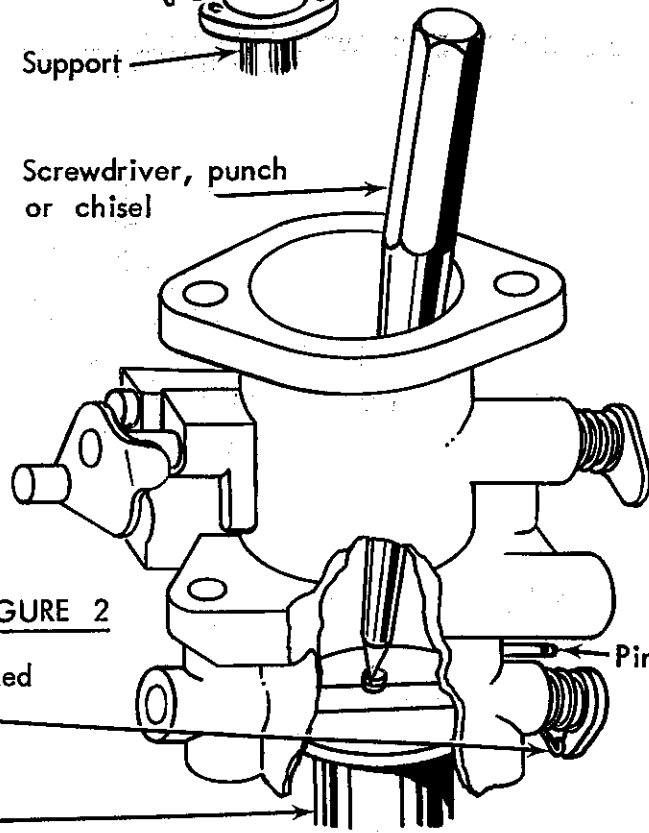

FIGURE 2
To stake the choke butterfly plate screw, unhook the choke spring from the pin on the side of the carburetor barrel (Figure 2). Turn the carburetor choke end down and support the choke butterfly shaft and head of the screw on a solid surface. Stake or upset the screw threads and then hook the choke spring back on the pin.
4. Insert two 10-24 x 2-inch long screws through the drilled holes to lock the starter drum to the starter base. Put the starter assembly on a bench vise with the threads of the two screws in the jaws of the vise (see Figure 2). Tighten the vise securely.
5. Place a small bar between the two teeth of the starter ratchet and pull the bar around clockwise to break the starter ratchet loose (see Figure 2). Remove the starter ratchet from the drum shaft.